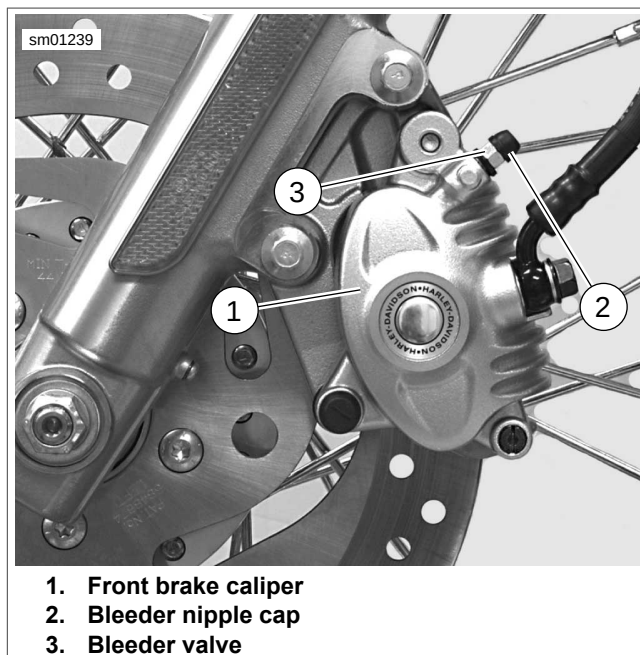
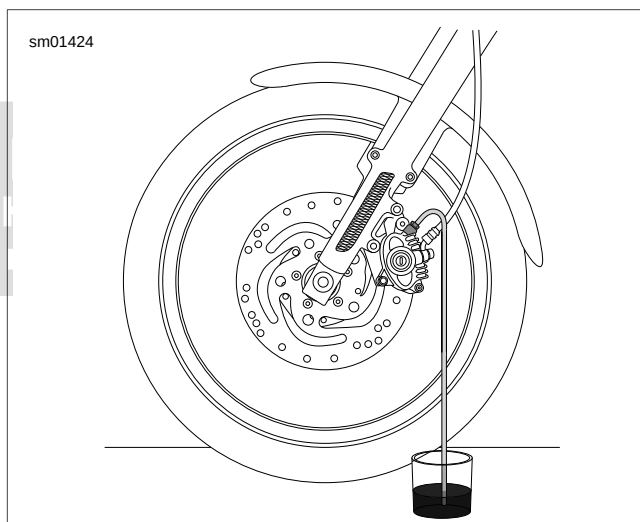

Figure 2-50. Front Caliper Bleeder Valve (typical)
Figure 2-51. Bleeding Hydraulic System
3. See Figure 2-50 and Figure 2-51. Drain brake fluid:
- a. Remove bleeder nipple cap (2) from bleeder valve (3) on front brake caliper (1).
- b. Install a length of 5/16 in (7.9 mm) ID clear plastic tubing over caliper bleeder valve (3). Place free end in a suitable container.